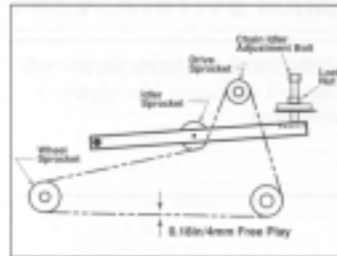

Figure 15
6. Install new chain from top (drive sprocket side) and route in accordance with Figure 15.
3. Turn idler adjustment bolt to adjust tension to allow 1/8" to 1/4" movement at the center point between the wheel sprocket and the rotor sprocket (see Figures 15 and 17).